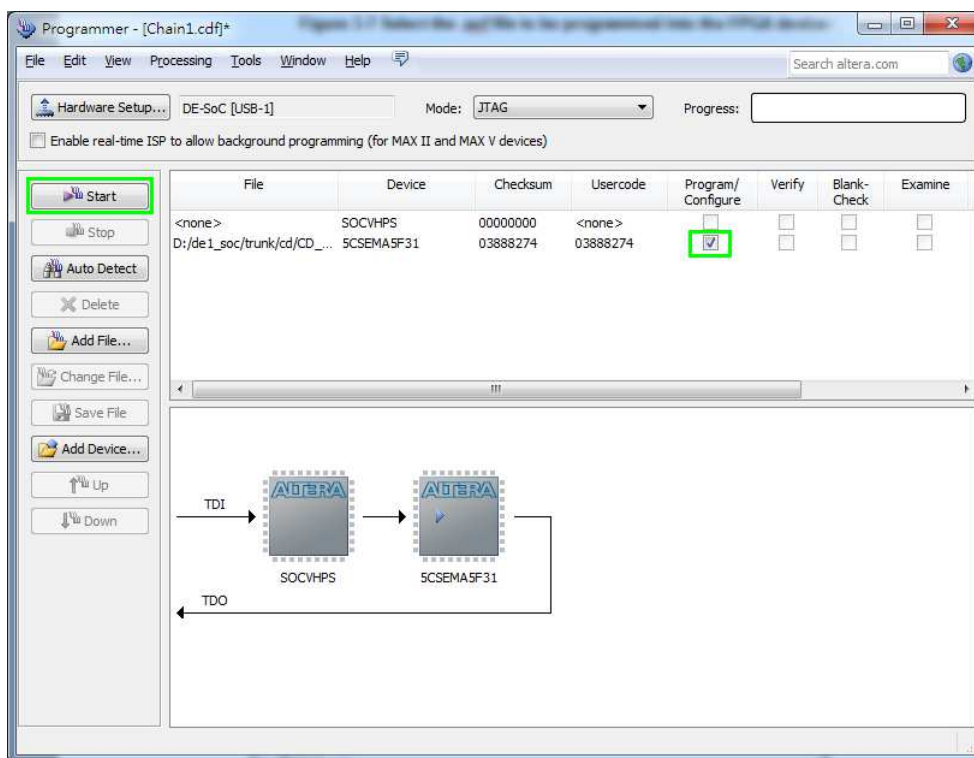

Figure 3-8 Program .sof file into the FPGA device
- Click “Program/Configure” check box and then click “Start” button to download the .sof file into the FPGA device, as shown in **Figure 3-8**.